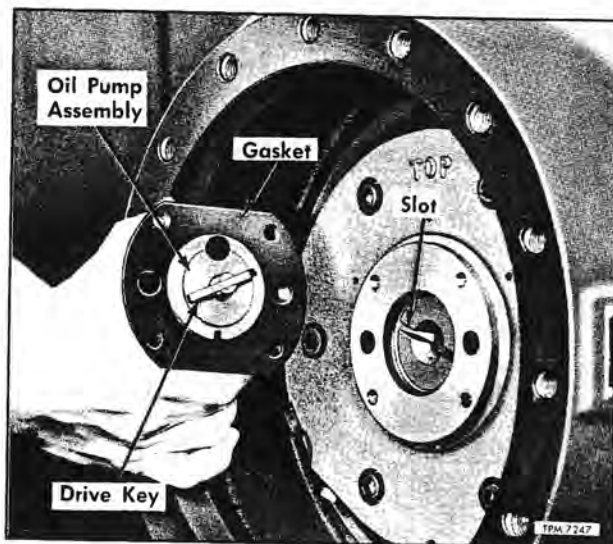

Figure 78—Installing Compressor Oil Pump
1. Before installing oil pump (66), make sure pump flange and bearing head surfaces are clean.
2. Insert attaching bolts with lock washers through pump assembly. Lubricate pump gasket (73) with clean compressor oil, then position gasket over threaded ends of bolts.
3. Align key of pump shaft with slot in end of crankshaft (fig. 78), then install pump to bearing head. Tighten pump attaching bolts to 14 foot-pounds torque.